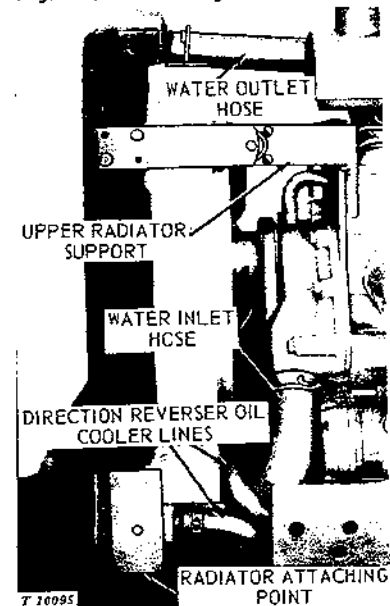

Fig. 20-5-3—Removing Radiator
5. Drain radiator and disconnect water inlet and outlet hoses (Fig. 20-5-3). On units with direction reverser, also disconnect oil cooler lines.